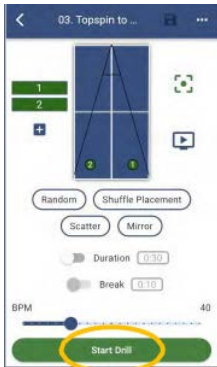

Figure 3-27
3. Touch either the name of the Drill or the ping pong table diagram for the Drill. This will take you to the Drill Edit screen (Figure 3-27).